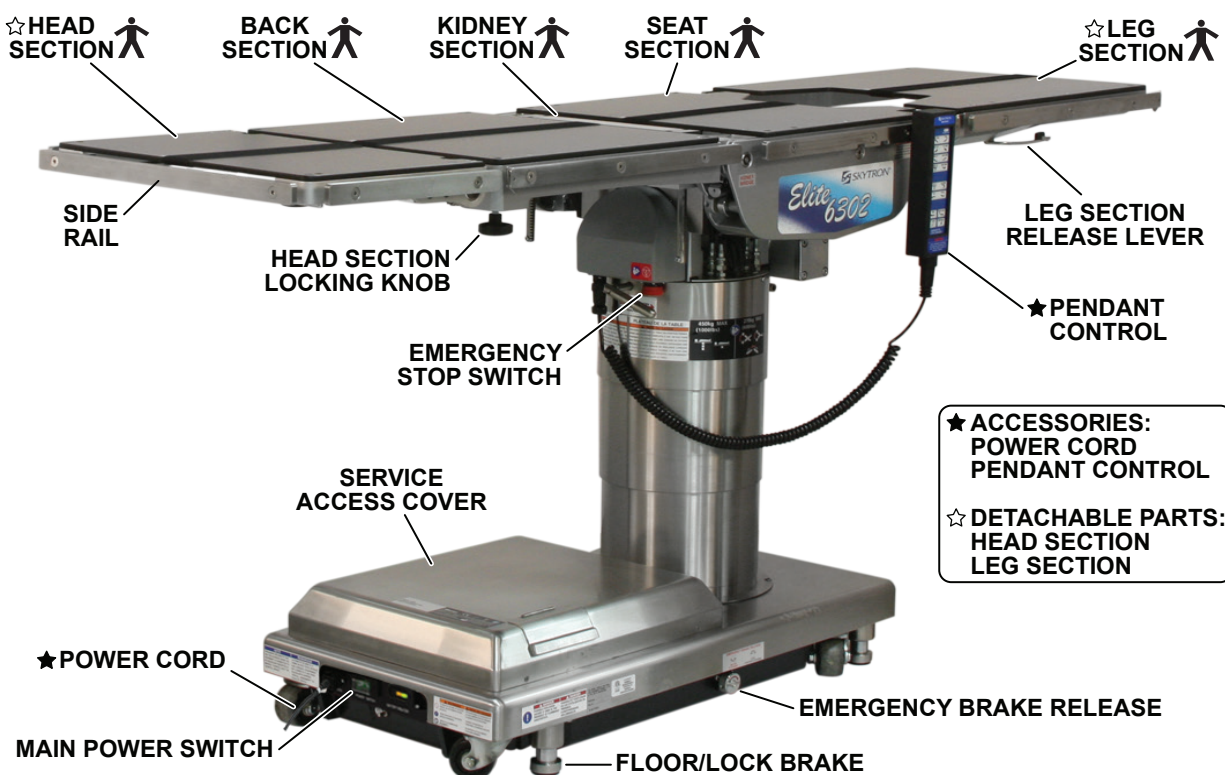

Figure 3-1. 6302 Surgical Table
The 6302 ELITE surgical table is an electro-hydraulically operated, general purpose surgical table (Figure 3-1).
The floor lock/brake system consists of four (4) self-leveling, hydraulic brake cylinders which raise and support the table base off from the casters (Refer to Figure 3-1).